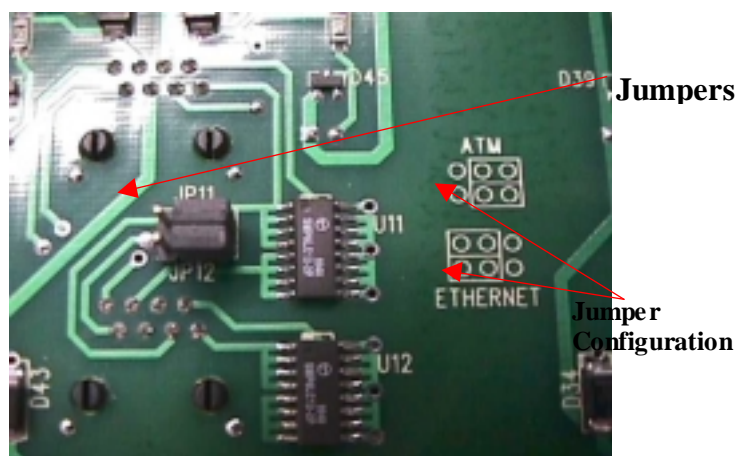

Figure 4-3 Access Panel Jumpers
2. Determine ports to be used on the Access Panel, and set jumpers on rear of panel to desired setting (either Ethernet or ATM). Reference the following Figure 4-3.